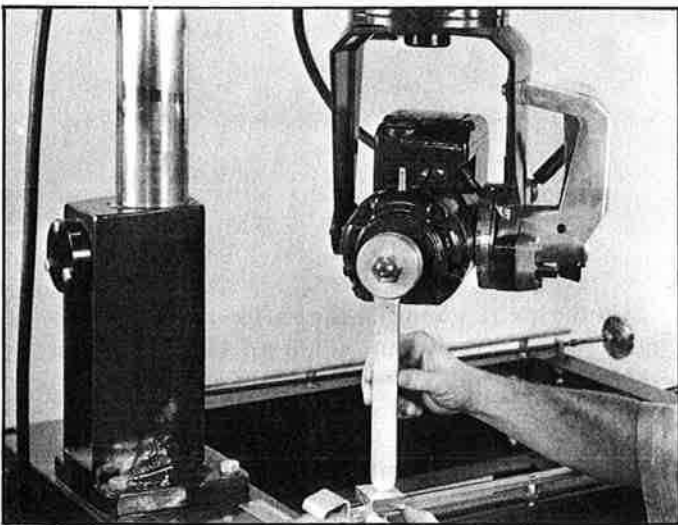

Fig. 12
3. Rotate track arm, loosen rip lock and move cuttinghead to the rear of the track, as shown in Fig. 12.
4. Place a feeler gage (block of metal or hardwood) over the rear leveling screw. Raise or lower the cuttinghead until the end of the wrench just touches the feeler gage, as shown in Fig. 12.